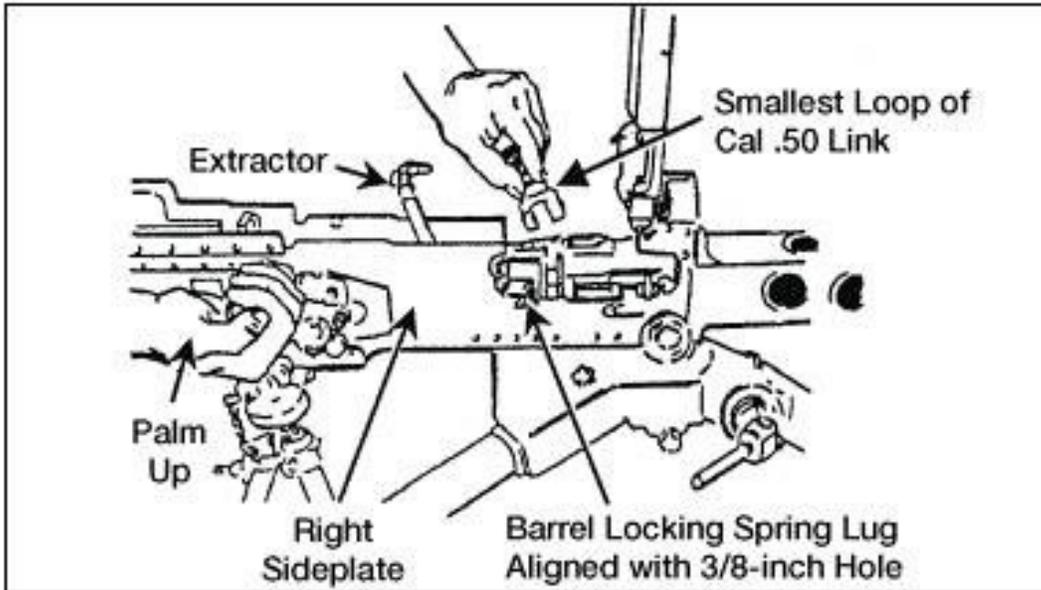

Figure 551-8ST-1025_02 (Alignment of the lug)
(2) Grasp the retracting slide handle with the right hand, palm up.
(3) Pull the bolt to the rear until the barrel locking spring lug aligns with the 3/8-inch hole in the right side of the receiver (Figure 551-8ST-1025_02).
(4) Place the smallest loop of a caliber .50 link between the trunnion block and the barrel extension (Figure 551-8ST-1025_02).